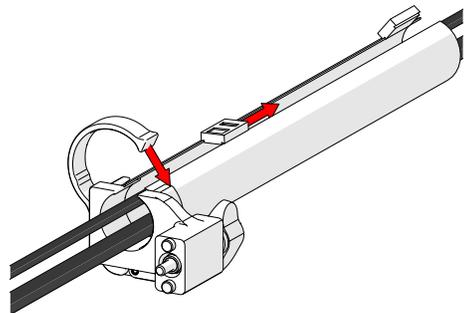

Fig. 201 - Zip to close
2. Follow the cable placement zipping the tube closed (Fig. 201).